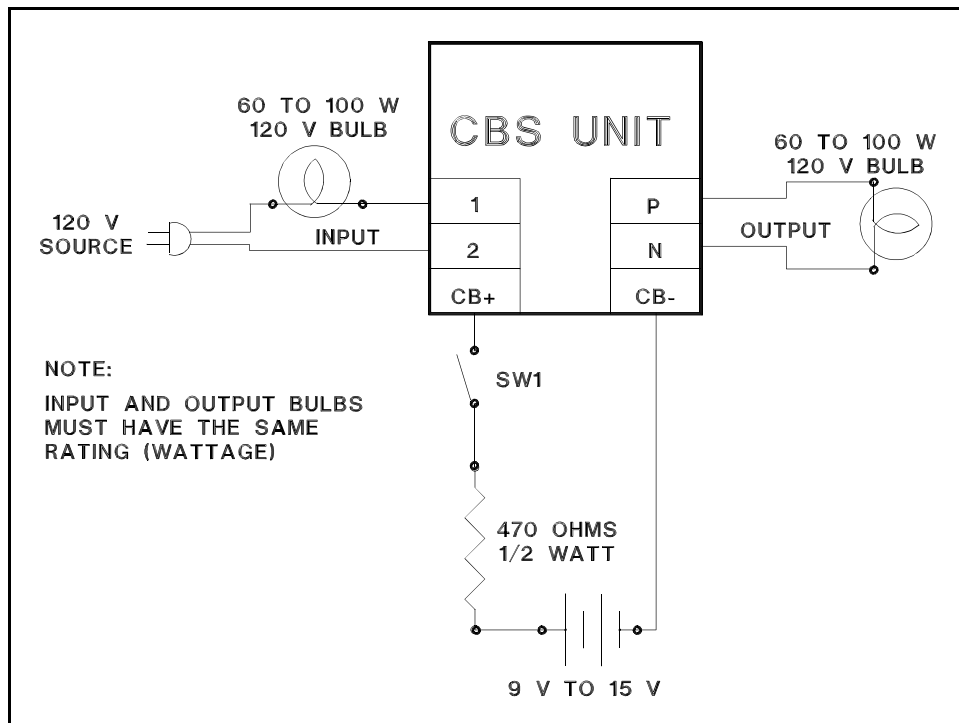

Figure 3-1. Bench Test Interconnection
Step 1. Connect the CBS in accordance with Figure 3-1.